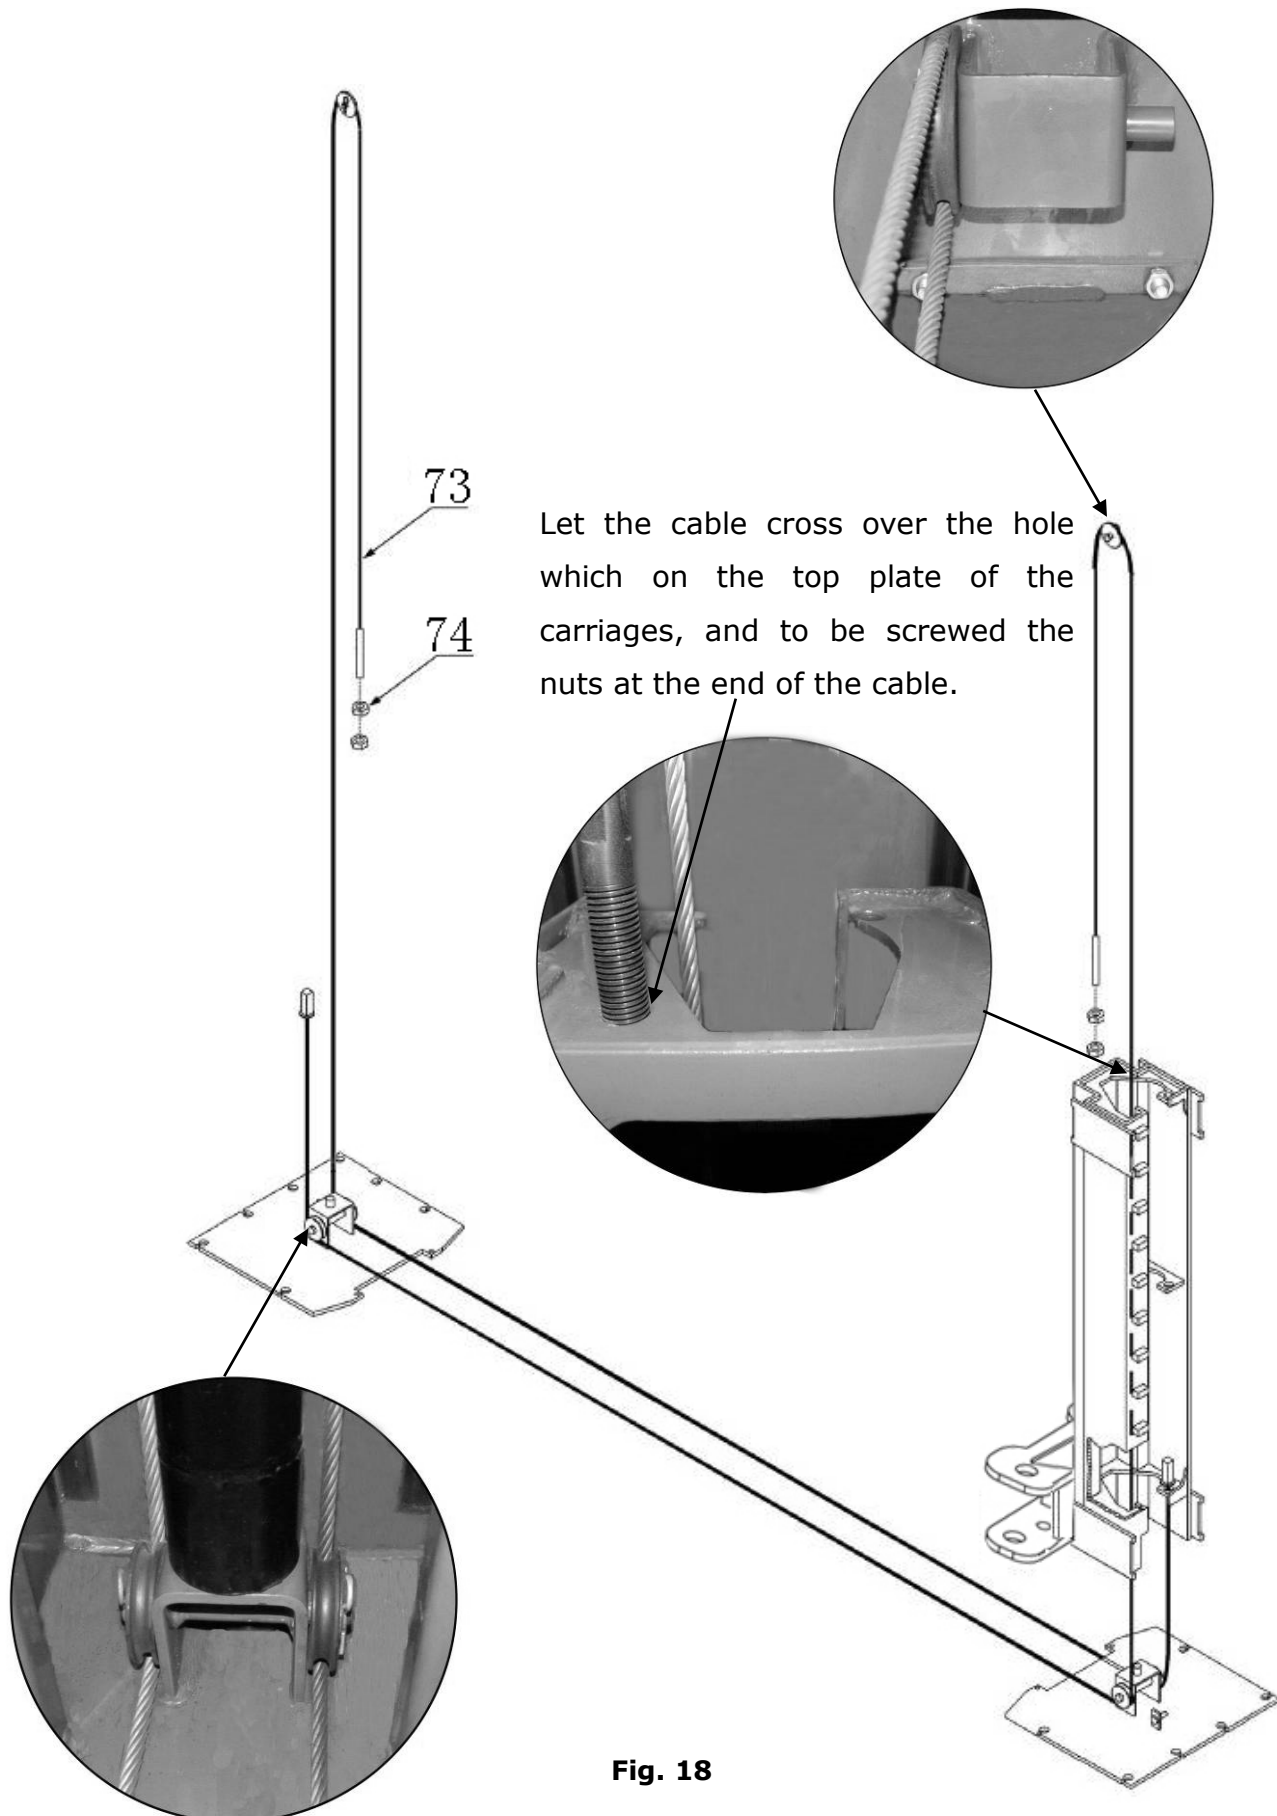

Fig. 18
I. Install cables (See Fig.18)